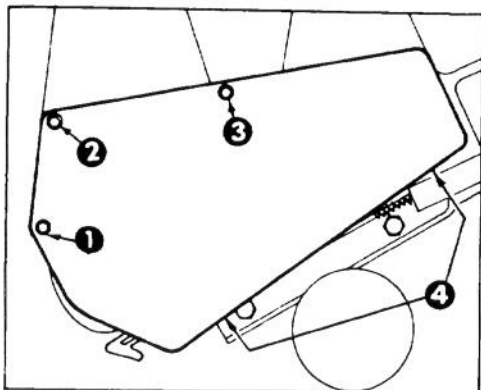

Figure 12
3. Remove (3) self tapping screws, (1) washer and (2) nuts securing belt cover to sideplate (Fig. 12). Set belt cover aside.
### REPLACING DRIVE BELT (Fig. 12&14)
2. Remove (3) self tapping screws, (2) capscrews, (1) washer and (2) nuts (Fig. 12) Set belt cover aside.